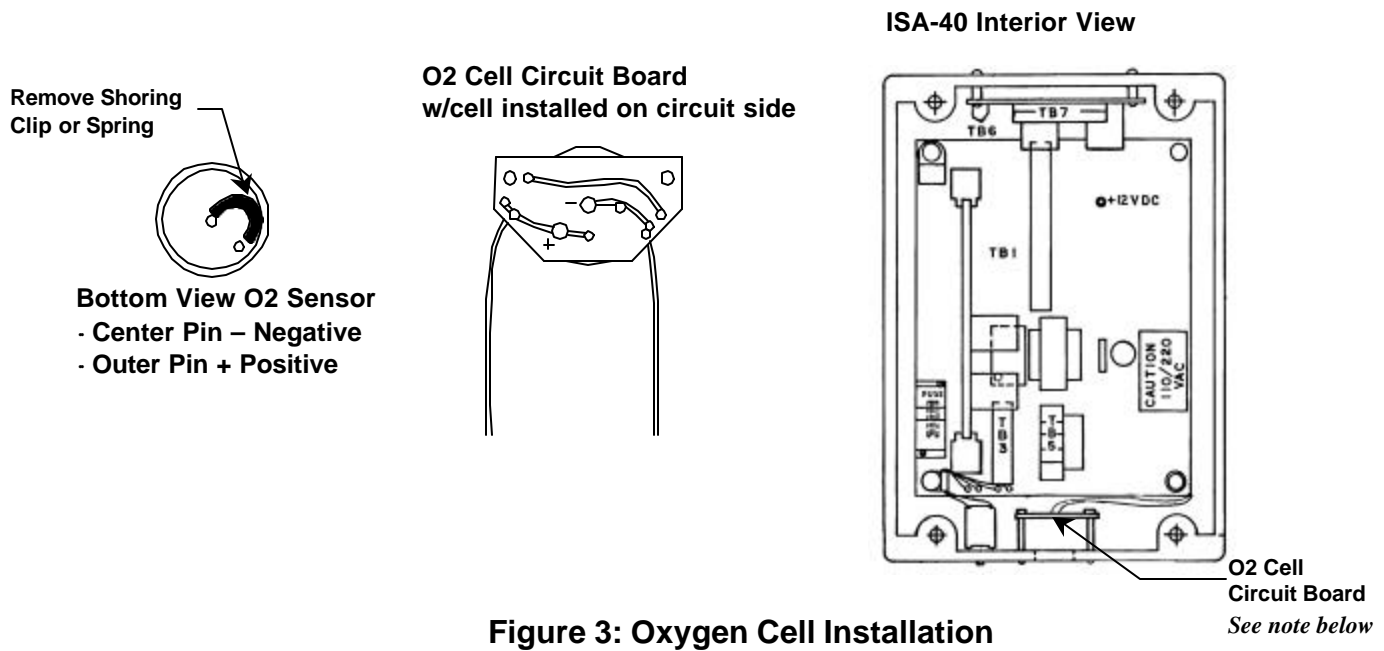

Figure 3: Oxygen Cell Installation
3. Remove the metal shorting clip (or spring) from cell pins. See Figure 3.
4. Plug the cell into the component side of the cell circuit board; center pin to center hole. See Figure 3. Place the board in the enclosure and replace the screws to secure the cell and circuit board.